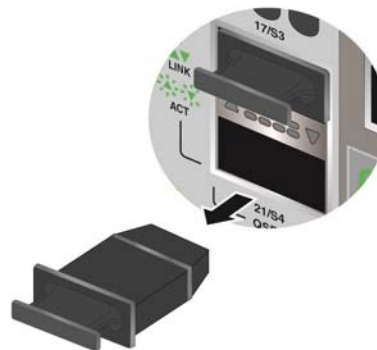

Figure 57. Removing the Dust Cover from Slot 21
3. Remove the dust cover from slot 21 on the other x550 Switch to be in the stack. Refer to Figure 57.